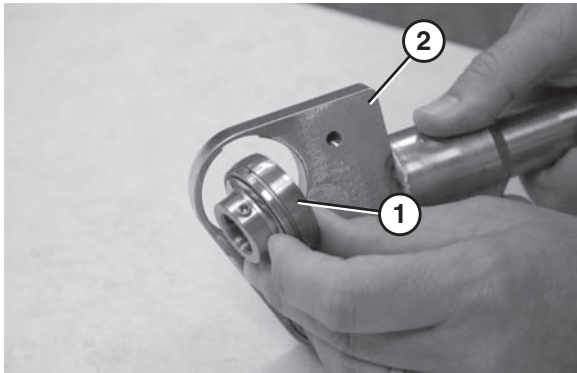

Figure 98
2. Remove the bearing (**Figure 98, item 1**) from the nose bar shaft assembly (**Figure 98, item 2**).